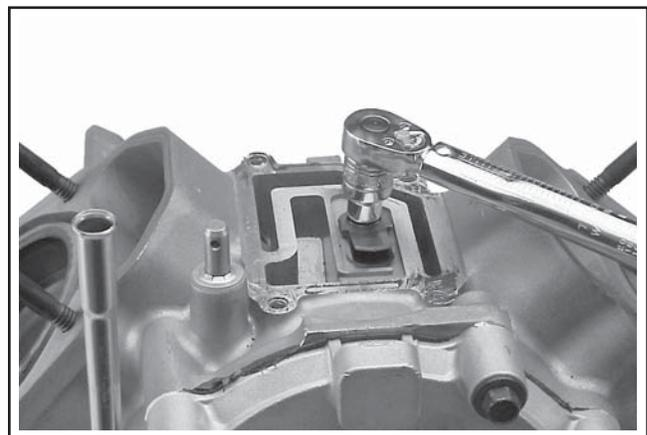

Figure 11-23. Installing Breather Reed.
3. Install the breather reed and breather reed retainer onto the crankcase and secure with the hex flange screw. Hold the assembly in line when tightening. Torque the screw to **3.9 N·m (35 in. lb.)**. See Figure 11-23.